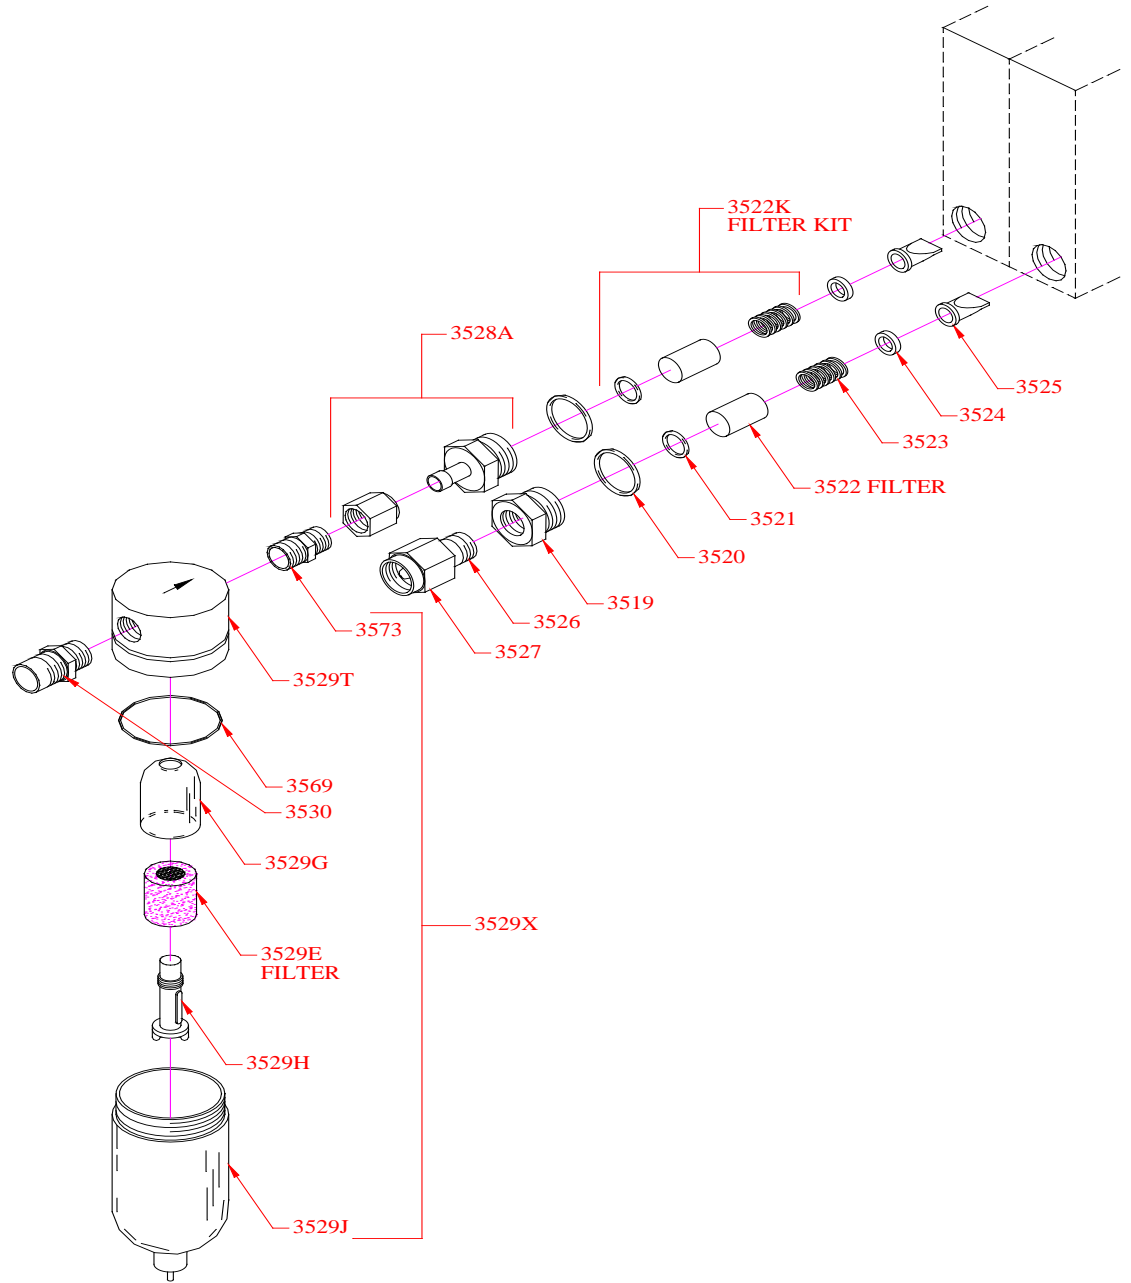

Figure 3
- Periodically replace the air water trap/inlet filter (P/N 3529E in Figure 3) at least every 6 months or as needed.
- Replace the internal sintered stainless steel filters (P/N 3522K in Figure3) at least every 6 months or as needed.